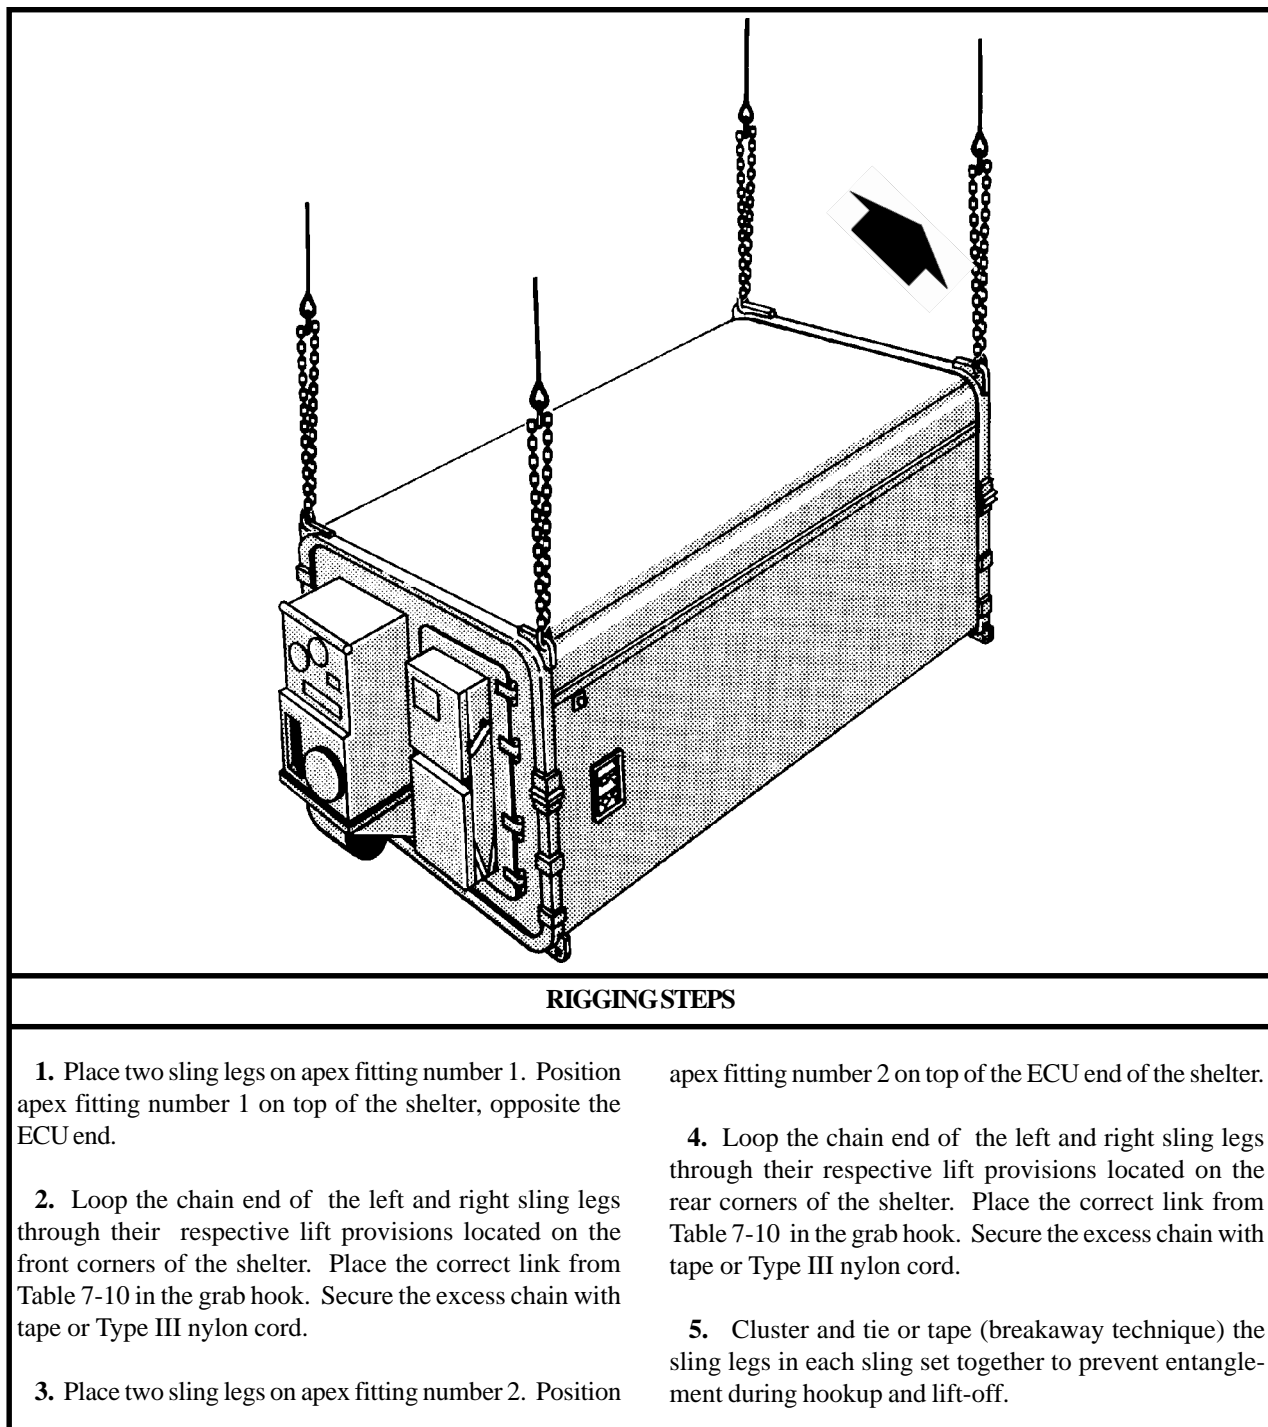

Figure 7-10. Field Maintenance Equipment Shop 20, Electromechanical Shop
(2) **Rigging.** Rig the load according to the steps in Figure 7-10.
(4) **Derigging.** Derigging is the reverse of the preparation and rigging procedures in steps d (1) and d (2).